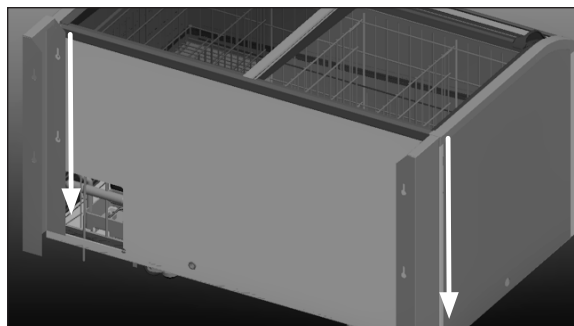

Fig. 8 Insert columns onto screws
5. Insert the column (Fig. 8) into the screw installation position, one on the left and one on the right.